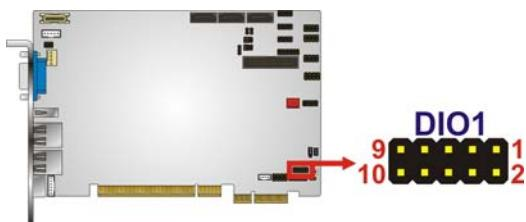

Figure 3-8: DIO Connector Locations
**CN Location:** See Figure 3-8